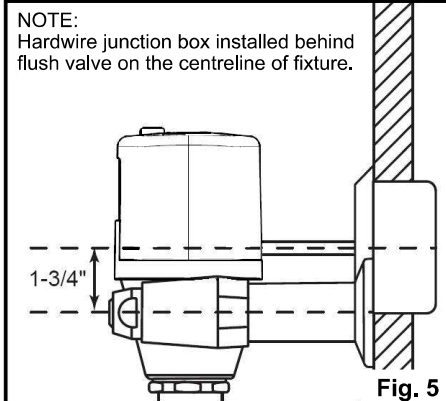

Fig. 5
- Before installing the flush valve body, install 2" x 4" electrical box into wall with centre of box in line with the cut-out in the back of the metal flush valve cover. See Figure 5.